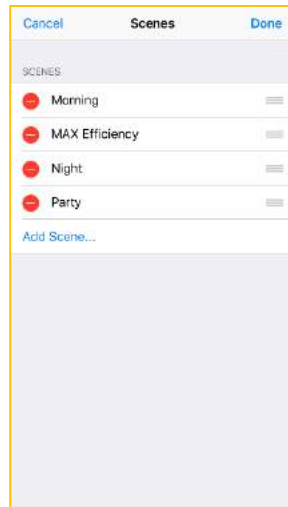

Figure 48
- ✔ Select the scenario from the list by clicking  (Fig. 48)